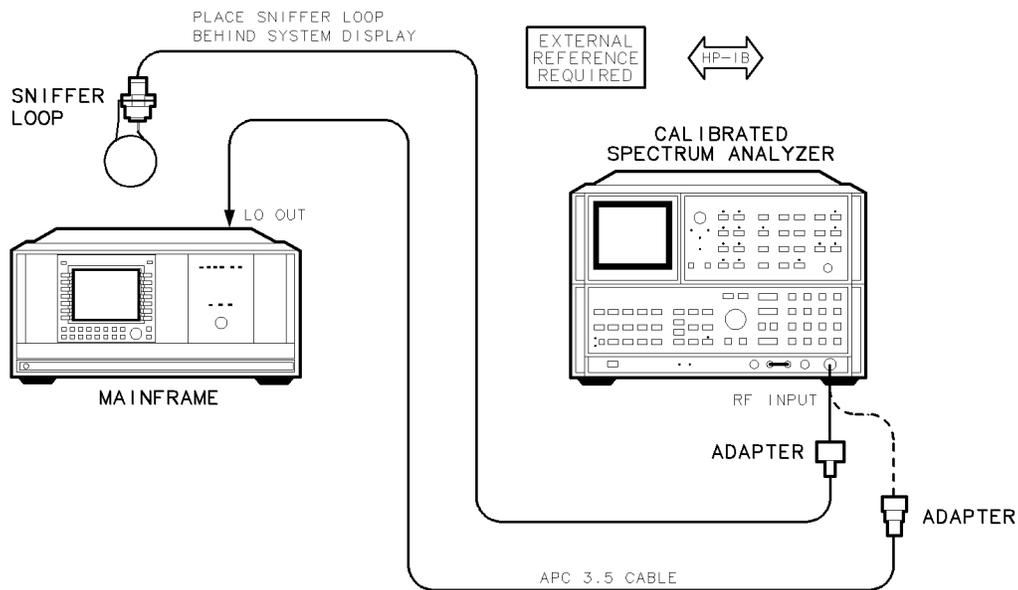

Figure 7-6. LO Display Sidebands Test Setup
1. Connect the HP 8566B spectrum analyzer’s RF INPUT to the DUT’s LO OUT using the adapter, as shown in Figure 7-6.
2. Connect the sniffer loop to the spectrum analyzer’s RF INPUT using the adapter, as shown in Figure 7-6.